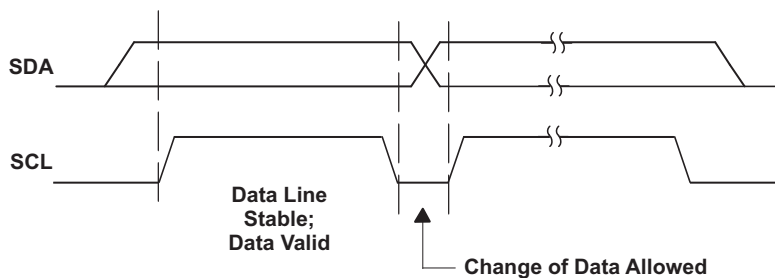

Figure 20. I²C Bit Transfer
- The master then generates the SCL pulses and transmits the 7-bit address and the read/write direction bit R/W on the SDA line. During all transmissions, the master ensures that data is valid. A valid data condition requires the SDA line to be stable during the entire high period of the clock pulse (see Figure 20). All devices recognize the address sent by the master and compare it to their internal fixed addresses. Only the slave device with a matching address generates an acknowledge (see Figure 21) by pulling the SDA line low during the entire high period of the ninth SCL cycle. On detecting this acknowledge, the master knows that a communication link with a slave has been established.